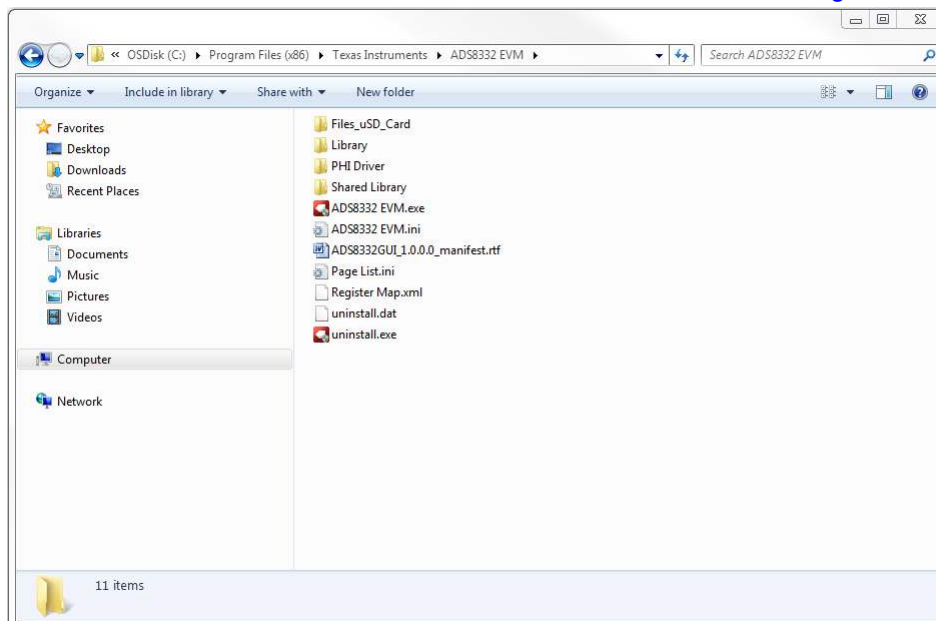

Figure 6-2. Launch the ADS8332EVMV2 GUI Software
3. Double click on the ADS8332 EVM.exe file to launch the EVM GUI, as shown in Figure 6-2.